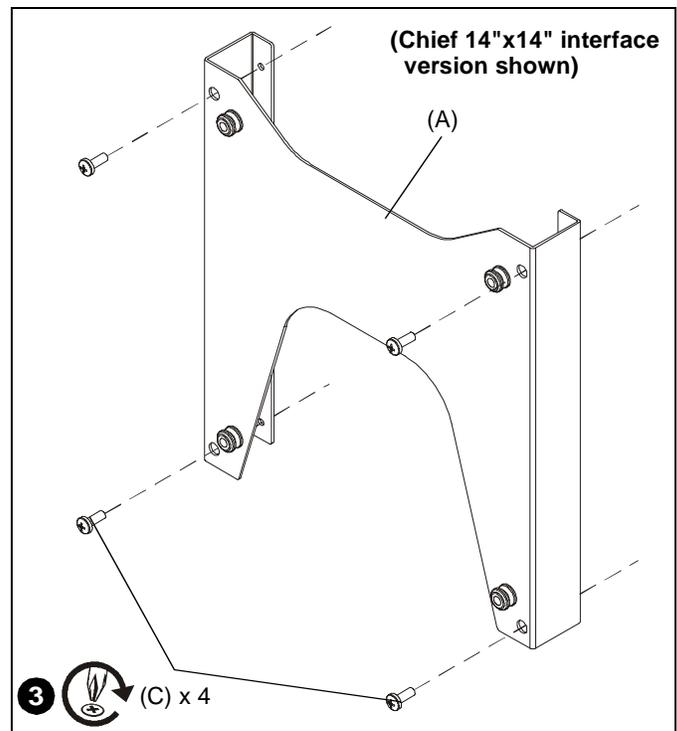

Figure 2
1. Attach mounting buttons (D) to interface bracket (A) using four M8 x 25mm button head cap screws (B) and the M5 hex key (E). (See Figure) **Proceed to Step 3.**
3. Attach interface bracket (A) to back of display using four M6 x 16mm Phillips cap head screws (C). (See Figure 2)